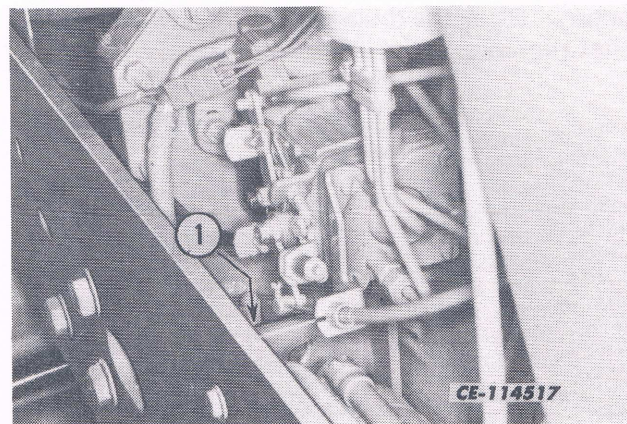

Fig. 30. Final Fuel Filter Vent Screw
2. Backout the vent screw (1, Fig. 30) of the final fuel filter until the outflowing fuel is free of air. Retighten the vent screw.